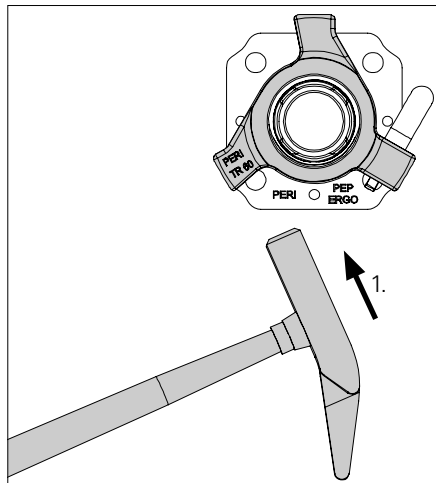

Fig. A2.01b
- Hammer on cams dictating the direction (Fig. A2.01b)